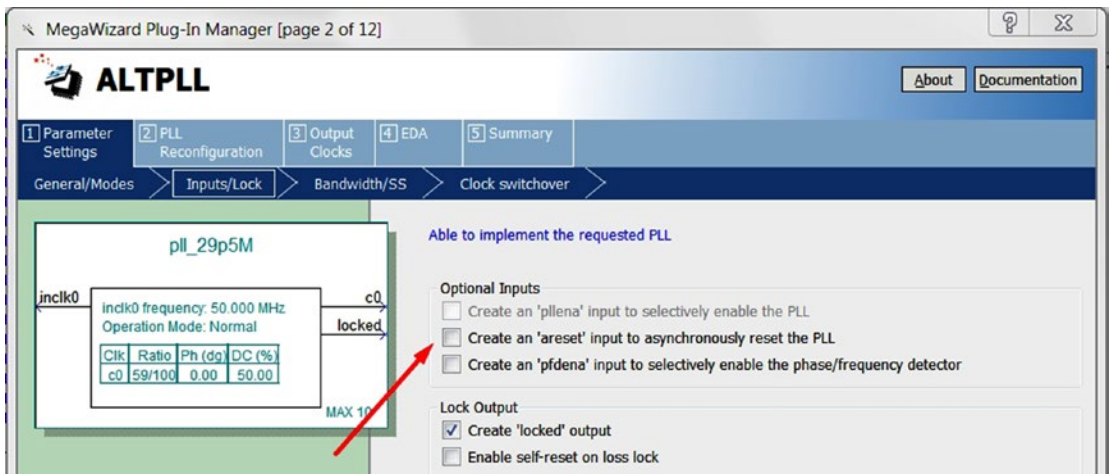

Figure 13-20. Uncheck the Create an "areset" input to asynchronously reset the PLL
2. In the first tab (Inputs/Lock), uncheck the Create an "areset" input to asynchronously reset the PLL (Figure 13-20).